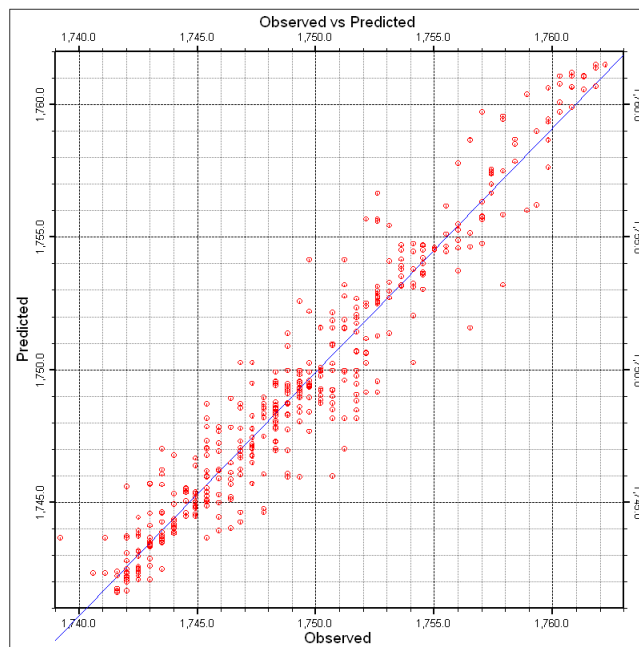

Figure 4
3. A scattergram (Figure 4) depicting the residuals with the x-axis representing the observed values and the y-axis representing the predicted (interpolated) values. The blue line depicts a linear regression that is best-fit to the data. The correlation coefficient for this regression is shown within the statistical summary (item #5). A perfect fit would plot all of the points along a diagonal line.